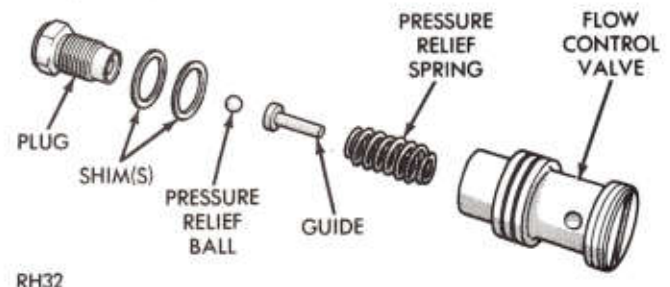

Fig. 20—Flow Control Valve
FLOW CONTROL VALVE (Fig. 20)
(1) Insert spring, guide, and pressure relief ball in end of flow control valve (Fig. 20).
(2) Install hex-head plug using the same number of shims as were removed.
(3) Install the hex-head plug and tighten to 50 in. lbs. (6 N·m).